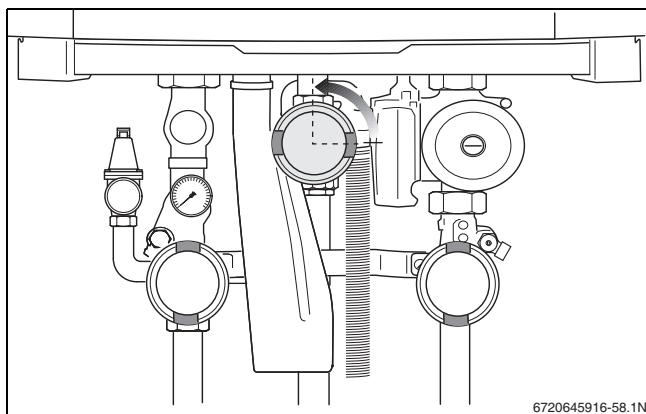

Fig. 62 Opening the gas valve
- Slowly open the gas valve by pushing on the gas valve and turning it counterclockwise through $\frac{1}{4}$ rotation (→ fig. 62). The gas valve is open when it is in the vertical position.
- Slowly open the gas valve by pushing on the gas valve and turning it ¼ rotation in an counterclockwise direction (→ fig. 62, page 34). The gas valve is open when it is in the vertical position.
- Slowly open the gas valve by pushing on the gas valve and turning it ¼ rotation in a counterclockwise direction (→ fig. 62).